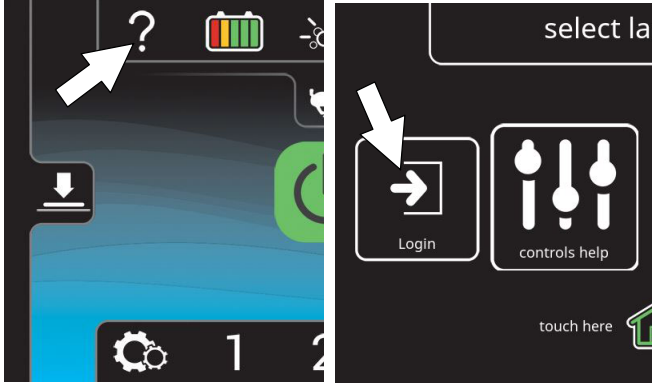

FIG. 191
2. Press the help button and log into the machine as supervisor mode (Figure 191). See *Entering the Supervisor Mode*.